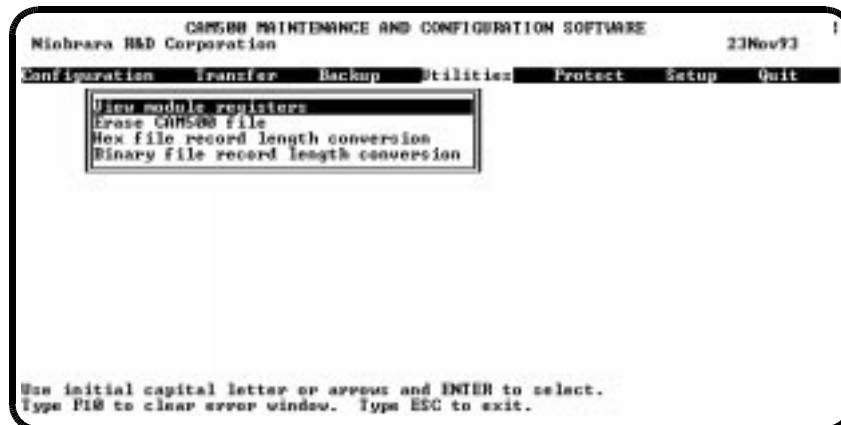

Figure 2-2 Utility Menu
- 7 To check the communication link between the CAM500 and the personal computer, select the Utilities menu from the main menu. A sub-menu will appear such as in Figure 2-2.